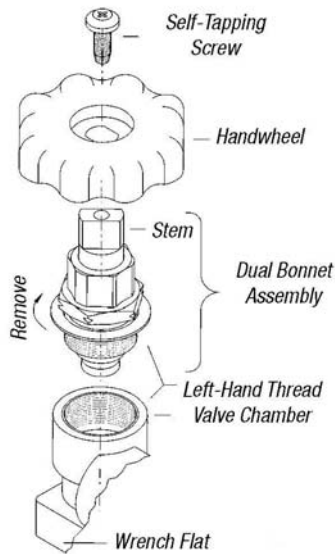

Figure 1
1. Before installing the bonnet assembly into the valve body, make sure the stem is turned fully counterclockwise at the top of the bonnet, as shown in Figure 1.